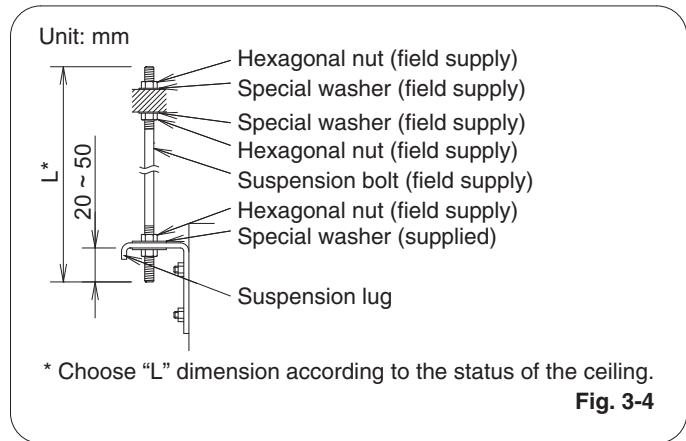

Fig. 3-4
- (3) Suspend and fix the indoor unit using the 2 hexagonal nuts (field supply) and special washers (supplied with the unit) as shown in Fig. 3-4.